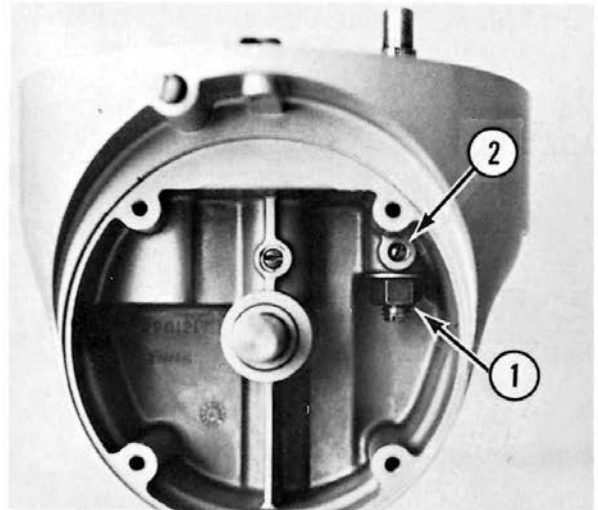

Fig. 3-36
- A. With the planetary and internal gear removed, loosen the lock nut (1, Fig. 3-36) on the eccentric shaft. Loosen the set screw (2, Fig. 3-36).